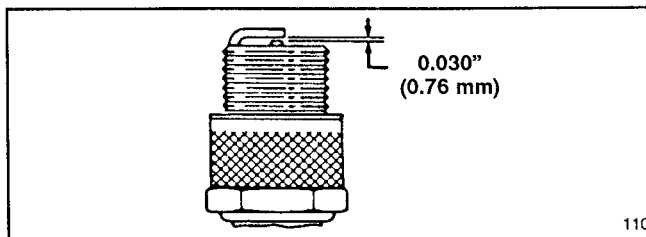

Figure 19
3. Set air gap at 0.030" (0.76 mm) (Fig. 19). Install correctly gapped spark plug and gasket seal. Tighten plug firmly to 14 ft-lb (19 N·m).